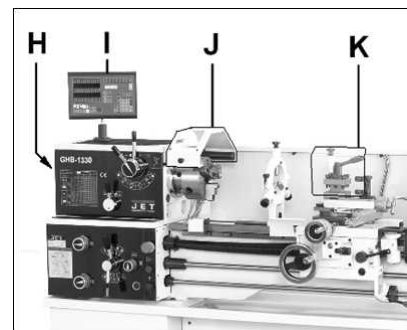

Fig 3
The pulley cover (H, Fig 3) and the chuck guard (J) are limit switch protected. They must be closed to operate the machine.